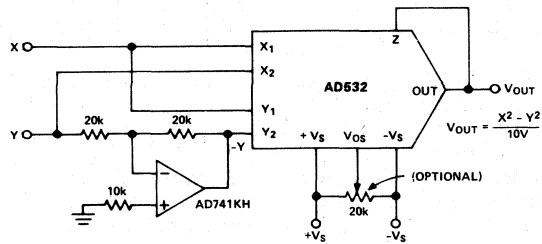

Figure 14. Differential of Squares Connection
The differential input capability of the AD532 allows for the algebraic solution of several interesting functions, such as the difference of squares,  $X^2 - Y^2 / 10V$ . As shown in Figure 14, the AD532 is configured in the square mode, with a simple unity gain inverter connected between one of the signal inputs (Y) and one of the inverting input terminals ( $-Y_{in}$ ) of the multiplier. The inverter should use precision (0.1%) resistors or be otherwise trimmed for unity gain for best accuracy.